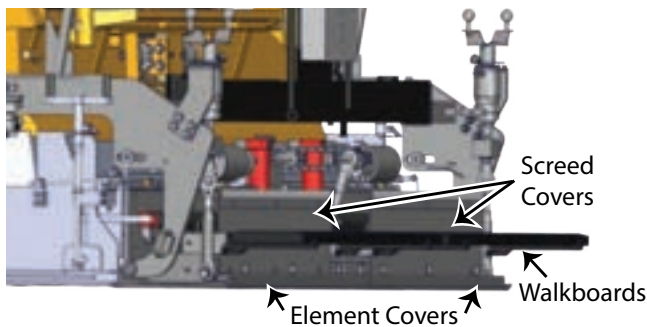

Figure 5-40. Walk Boards and Covers
2. Unbolt and remove the rear walk boards. **(Figure 5-40)**